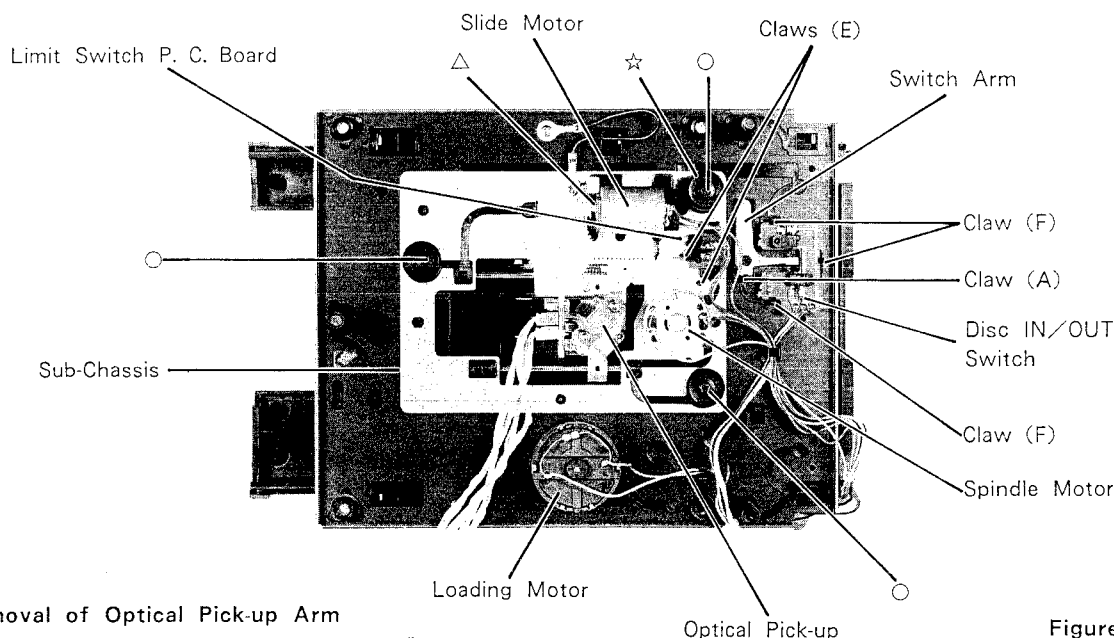

Figure 10
- (2) After disengaging one claw (A), remove the switch arm as shown in Figure 10.
- (1) After removing three screws marked "O", remove the sub-chassis as shown in Figure 10.
- (1) Remove one screw marked "△" and lift up the motor as shown in Figure 10.
- (1) Remove two claws marked "E" as shown in Figure 10.
- (1) Remove three claws marked "F" as shown in Figure 10.